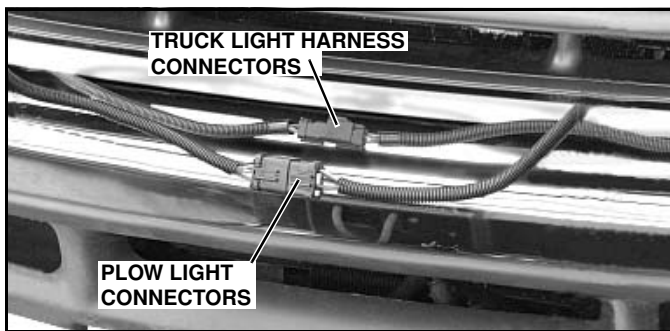

Figure 1-37
5. To make the truck lights operable, plug the male and female EIS® connectors on the truck light harness together (See Figure 1-37).